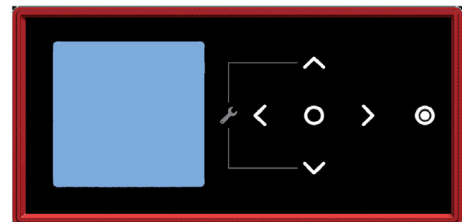

Fig. 4: CTRLMax Navigation Control
1. Press and hold the UP and DOWN buttons together see Fig. 4.
1. Touch simultaneously on the up and down soft keys for 3 seconds to access the functions for the installer. See Fig. 4.